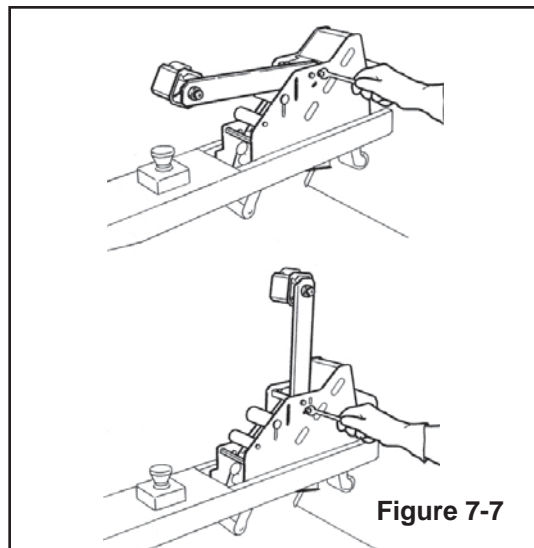

Figure 7-7
10. Ensure that the tape drum bracket assembly (located on the upper and lower taping heads) is mounted vertically, as shown in Figure 7-7.